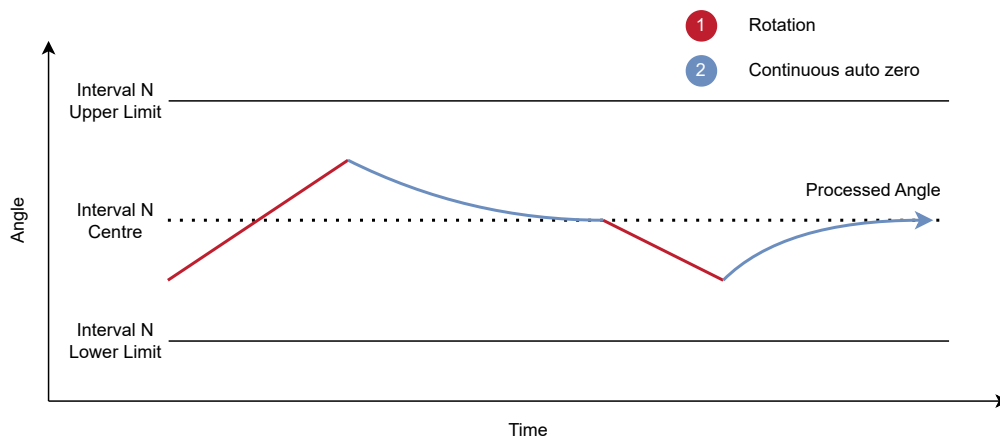

Figure 5.5: Continuous Auto-zero Behaviour
- > **Continuous**: The auto-zero filter will cause the Processed Angle to move continuously towards the centre of the current interval. It is recommended to use an auto-zero beta value of 10 or higher to allow the Processed Angle to move between intervals during slower rotations. This mode is recommended for devices without a mechanical ratchet. This behaviour can be viewed in Figure 5.5.